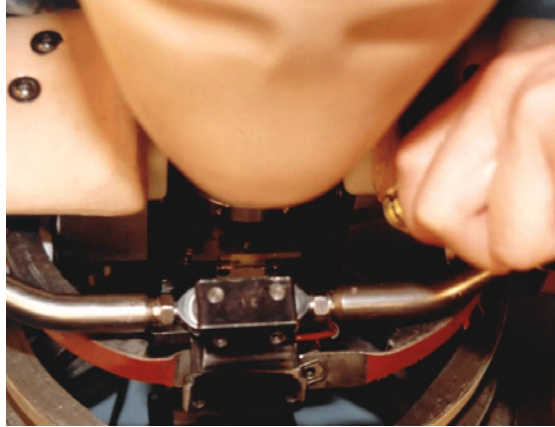

Figure 5.17- Attach the head and neck to the Neck Pitch Change Mechanism
2. Secure the Lower Neck Load Cell to the top plate (T1SPM216) of the Neck Pitch Change Mechanism using four 1/4-20 x 5/8" SHCS- NP {3/16} as shown in **Figure 5.17**.